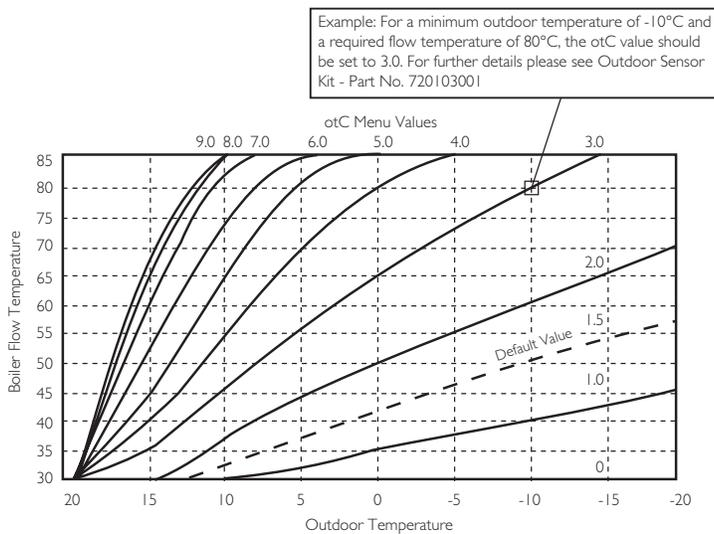

Fig 25. Outdoor Sensor Curve Graph
2. Set the required temperature compensation value from the graph (Fig. 25) by rotating the Selector Button and pressing to confirm. Press 'MENU' until the main screen is displayed.